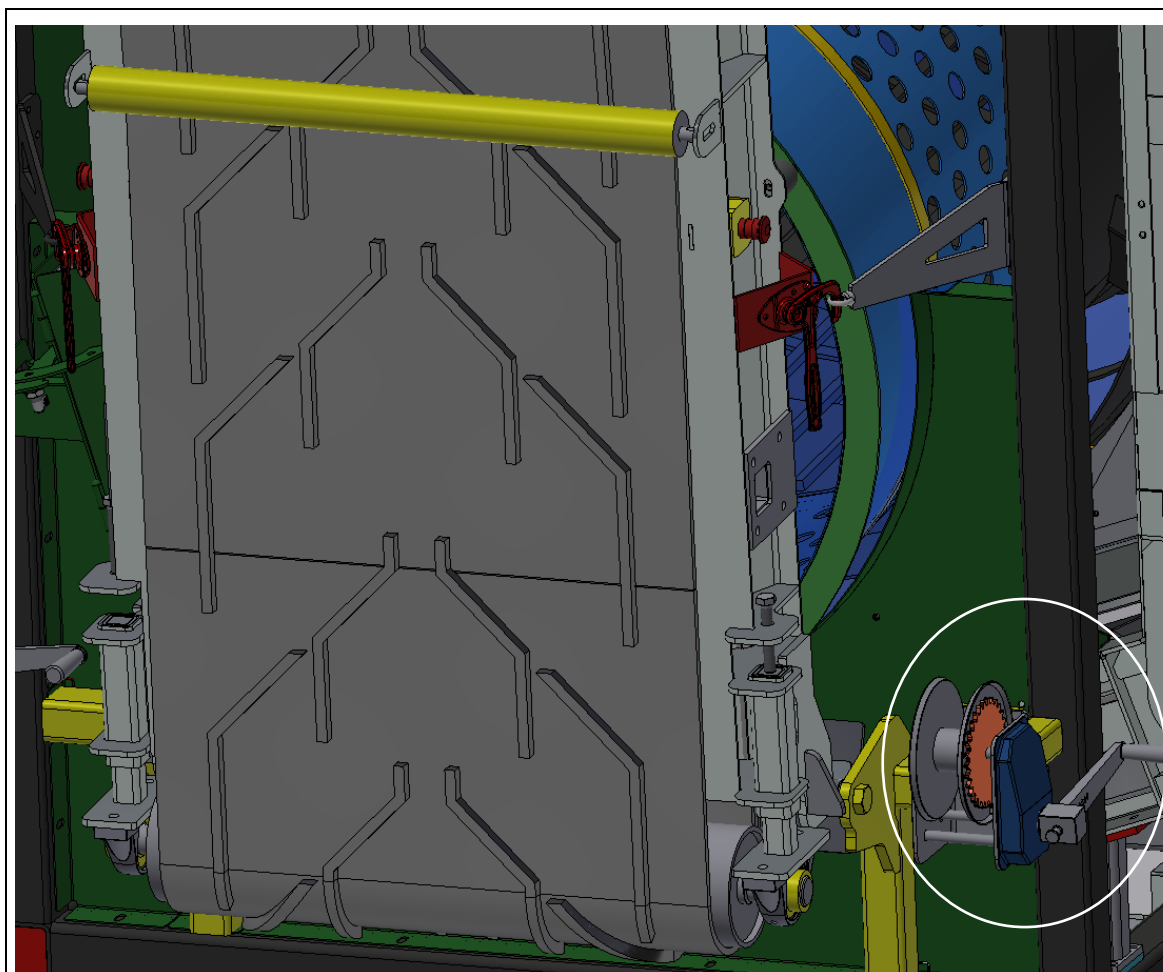

Fig. 8-3: Winch of the 3. fraction belt
1. Put the crank on the winch (see figure 8-3).
1. Put the crank handle on the winch. (see figure 8-3).